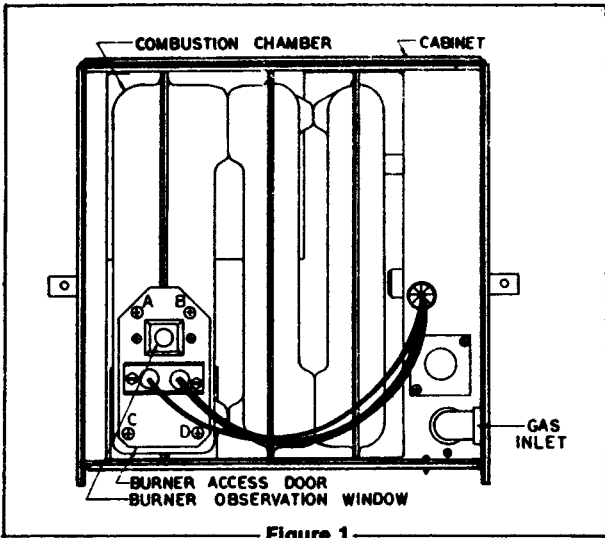

Figure 1
1. Turn the manual valve to the "OFF" position (see Figure 1).
4. Inspect main burner by removing the four (4) screws (A, B, C and D) securing the burner access door to the combustion chamber (see Figure 1). If excessive rust and corrosion are present on burner surface, the burner must be thoroughly cleaned or replaced. The burner may be cleaned using a steel wire brush, then blown clean using high compression air.